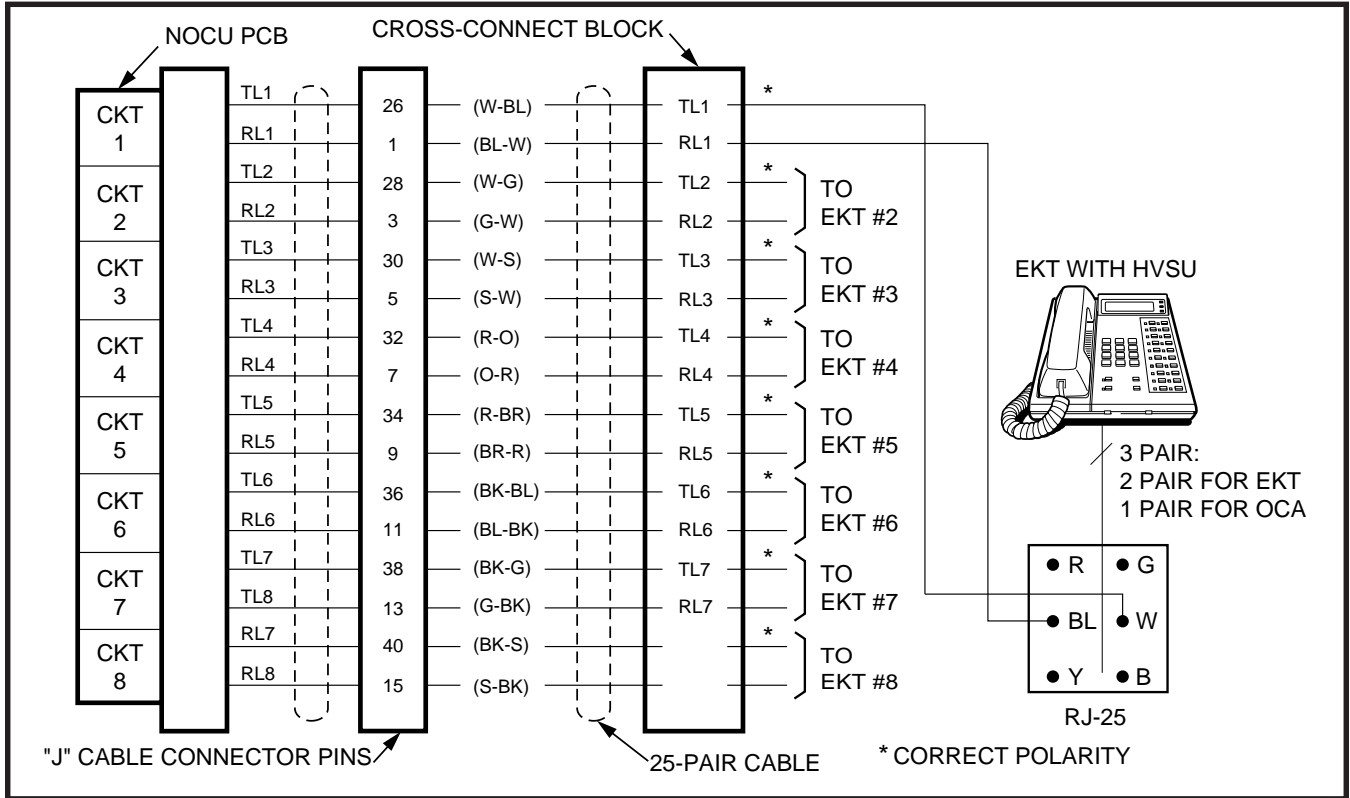

FIGURE 4-29—OFF-HOOK CALL ANNOUNCE CONNECTION (NOCU)
**5.26** NOCU connection details are shown in Figure 4-29.